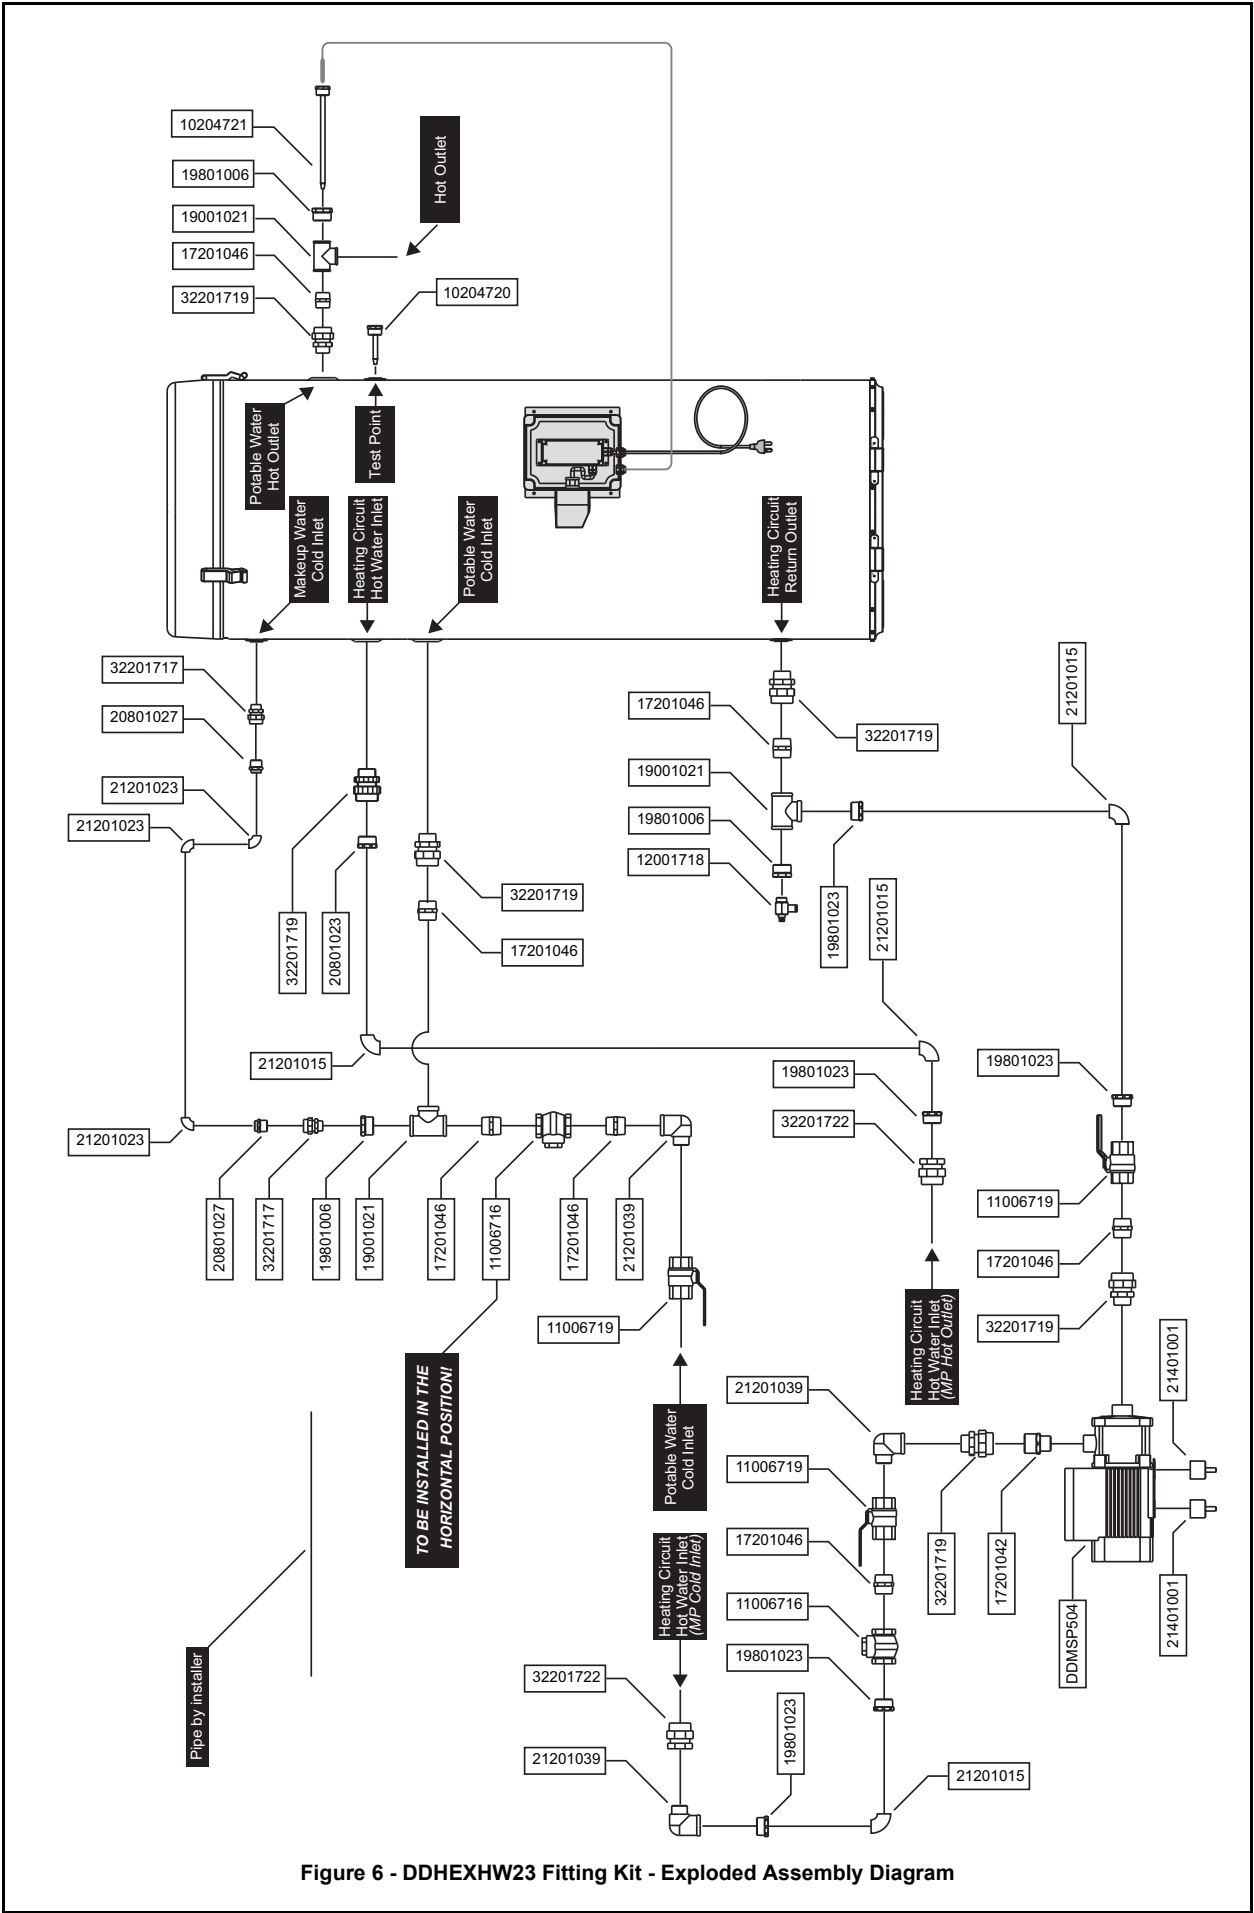

Figure 6 - DDHExHW23 Fitting Kit - Exploded Assembly Diagram
- Figure 6 provides exploded assembly for all connections supplied.